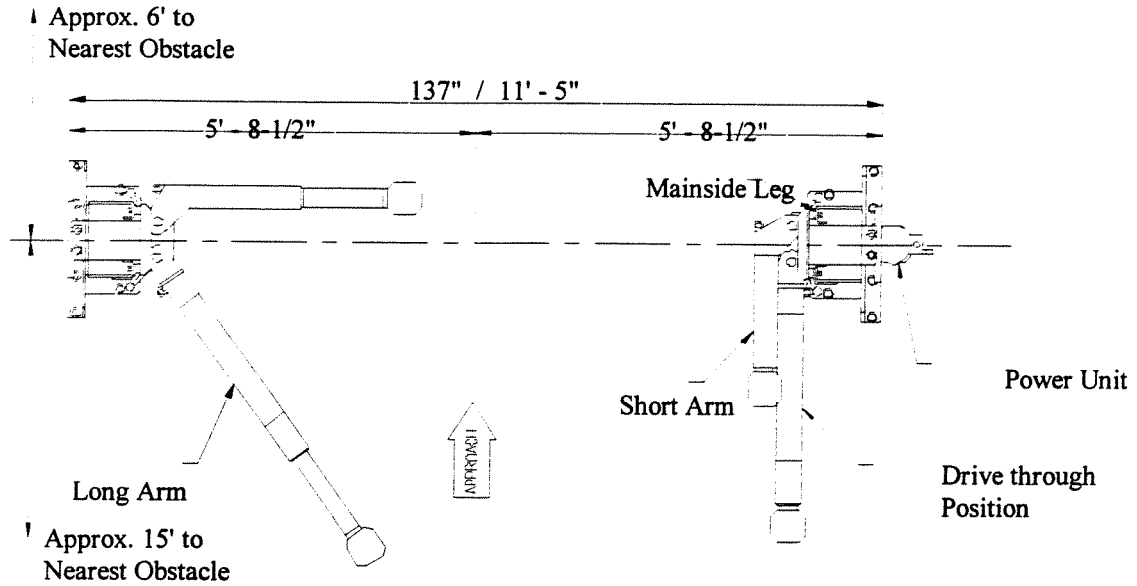

FIGURE 3
4. Figure 3 shows proper placement of the legs in the service bay. The mainside leg has a mounting bracket on its back for the power unit along with two holes in its back near the top. The mainside leg is located on the right hand or passenger side of the lift.
no attaching hardware. The long arms go to the rear, or drive in side of the lift. Refer to Figure 3 for placement of the swing arms.